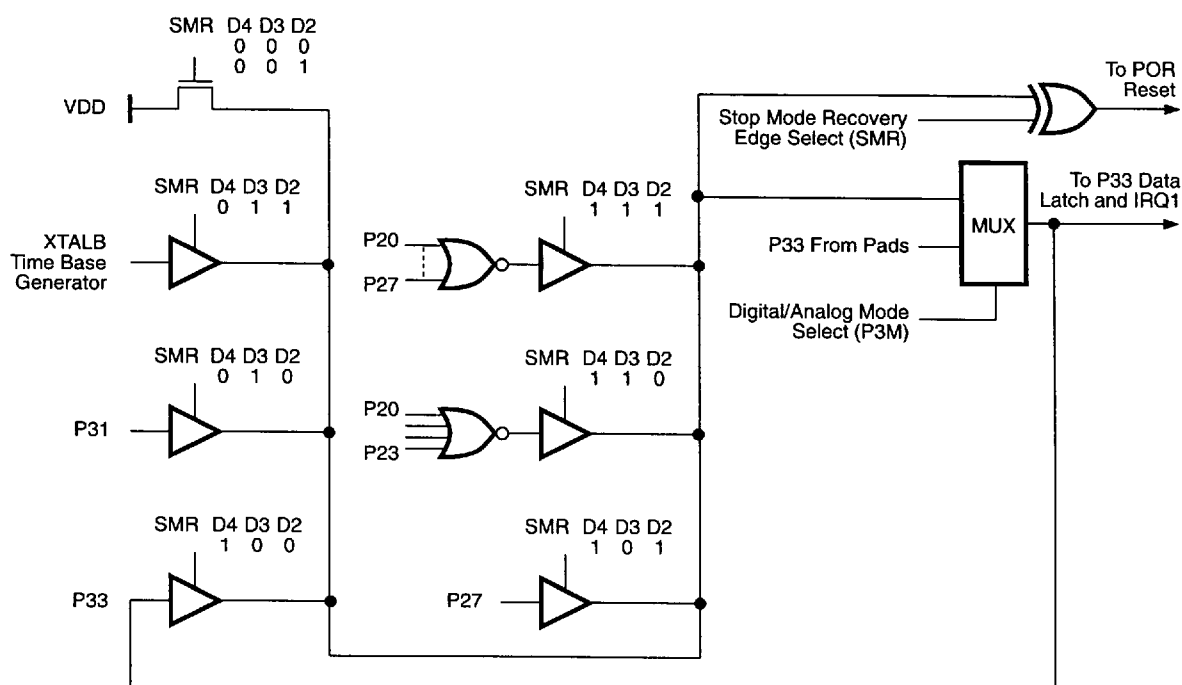

Figure 22. Stop-Mode Recovery Source
**Reset Upon Power-On.** Upon applying power to the Z87100, an internal reset pulse is generated which triggers the timing recovery circuit illustrated in Figure 22. Power-on reset (POR) behavior is different, however, depending on whether RC or TMBASE has been selected as the clock that drives the Z8®.
The WDTMR register is accessible only during the first 64 processor cycles (128 oscillator clocks) from the execution of the first instruction after Power-On-Reset, Watch Dog Reset or a Stop-Mode Recovery (Figure 22). After this point, the register cannot be modified by any means, intentional or otherwise. The WDTMR cannot be read and is located in bank F of the Expanded Register Group at address location 0FH, as shown in Figure 23.